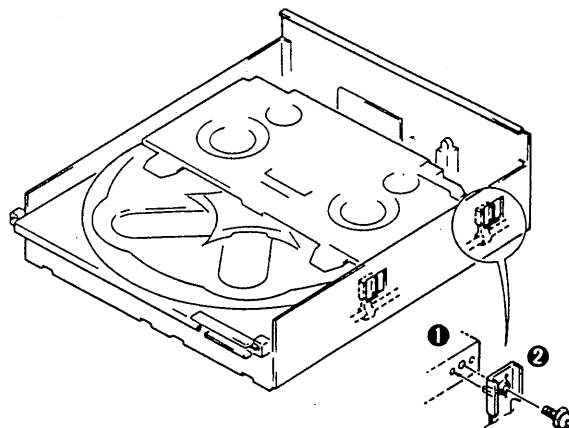

Fig. 4
5. After putting the boss of figure 4- ② into the hole of figure 4- ① to locate, screw the disc table to the guide bar retainer.